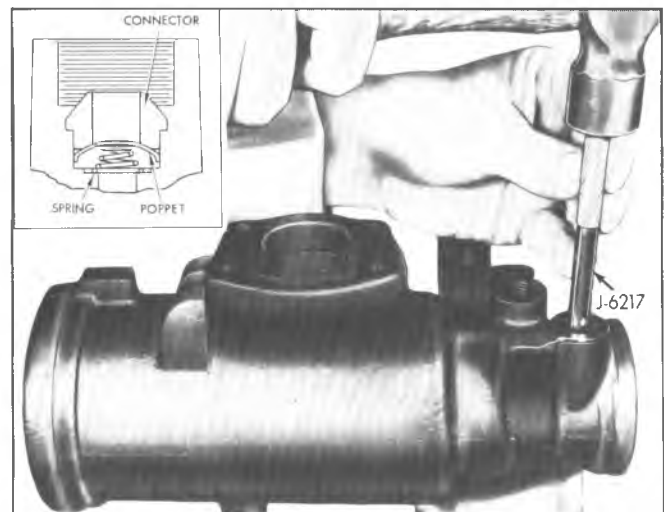

Fig. 49--Installing New Connector in Housing
5. Drive the new connector against the housing seat using Tool J-6217, being careful not to damage either the connector or housing seat (fig. 49).